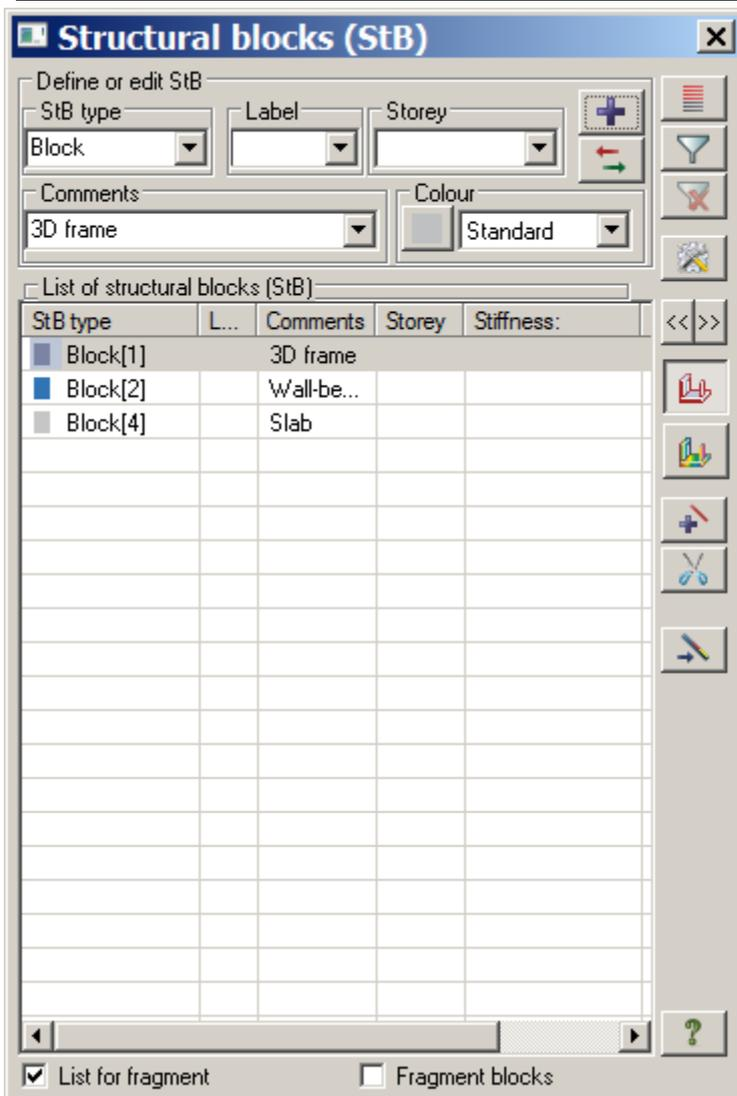

Figure 11.12 Structural blocks (StB) dialog box
- ⇒ In the **Structural blocks** dialog box (see Fig.11.12), select the first row **Block (1)** with the comment **3D frame**. In this case, floor slabs and bars will be selected on the model.
- ⇒ In the **Structural blocks** dialog box (see Fig.11.12), select the second row **Block (2)** with the comment **wall-beam**.
- ⇒ In the **Structural blocks** dialog box (see Fig.11.12), select the second row **Block (3)** with the comment **slab**.